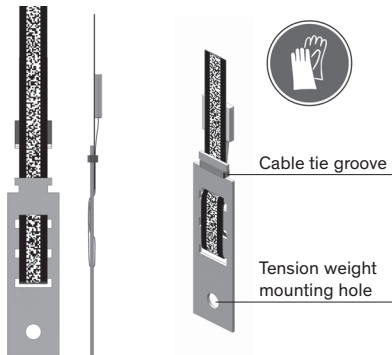

Figure 30: Bottom tension lock
3. Straighten the code tape. Fasten it with a cable tie around the tension lock (Figure 30).